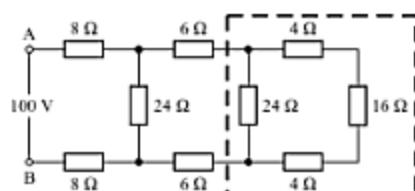

Fig. 2.46
20. In the circuit shown in Fig. 2.46, determine (a) the equivalent resistance between points A and B, (b) the total current, and (c) the power delivered to the 16-Ω resistance.